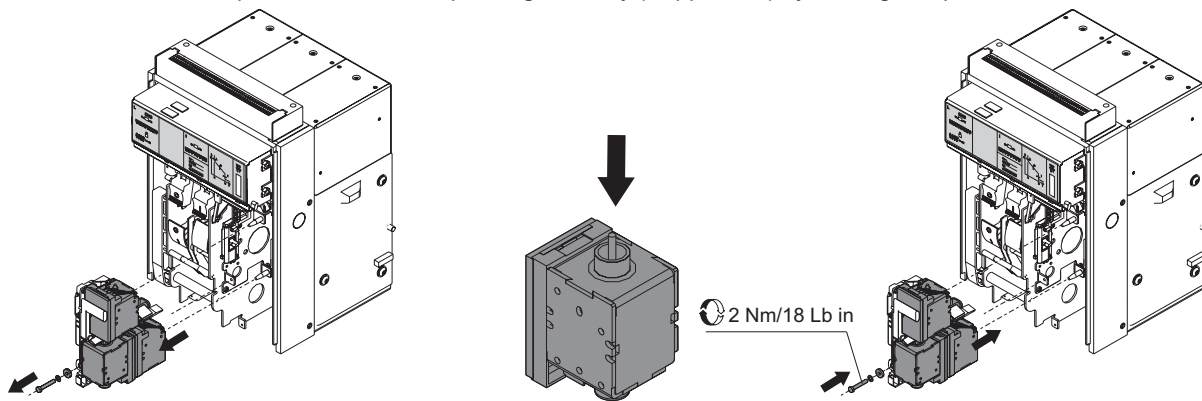

Figure 35.
- Check that the releases (YO-YU-YC) are in good condition (no excessive wear, overheating, breakages) Figure 35.